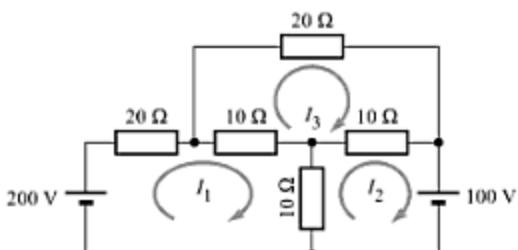

Fig. 3.69
10. Apply mesh analysis and determine the loop currents I_1 , I_2 and I_3 in the circuit shown in Fig. 3.69.